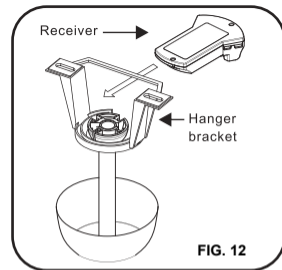

FIG. 12
Step 1. Insert receiver into the bracket as figure show. (FIG.12)